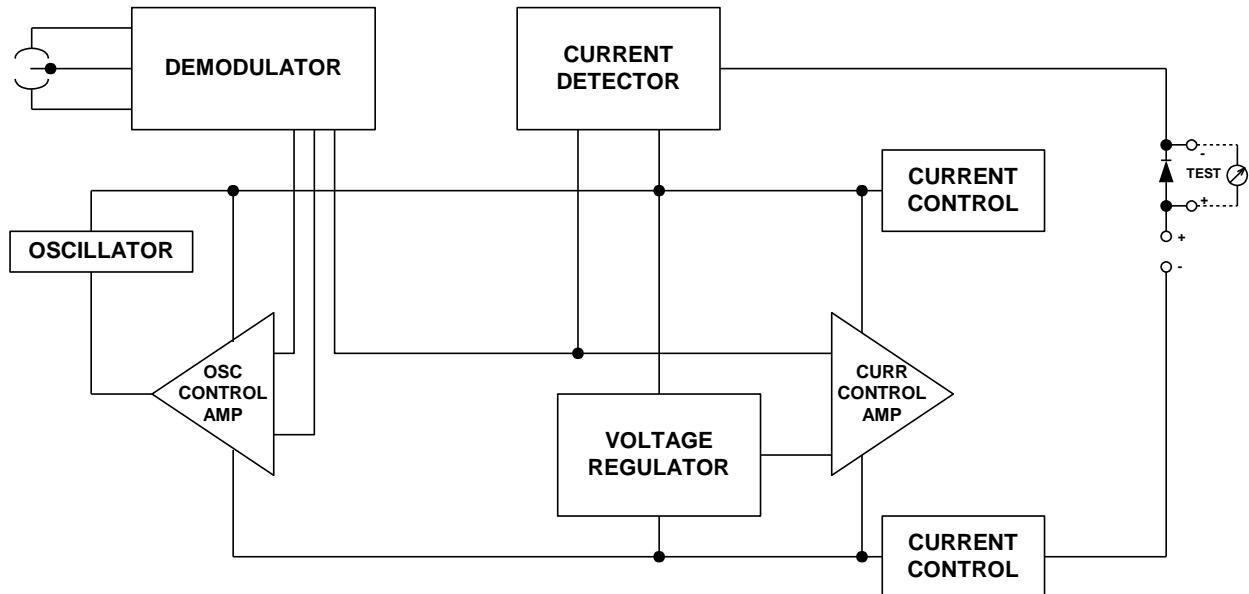

Figure 5 - Electrical Block Diagram
- Figure 5 – Electrical Block Diagram
The electrical block diagram for the Model 1151 Series ALPHALINE Analog Pressure Transmitter is shown in **Figure 5**.